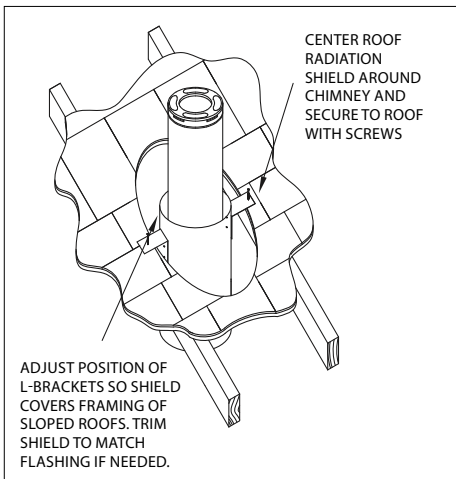

Figure 12
not interfere with the Roof Flashing. Secure Roof Radiation Shield to the roof using at (2) roofing nails or (2) #8, 1-1/2" wood screws as shown in **Figure 12**.